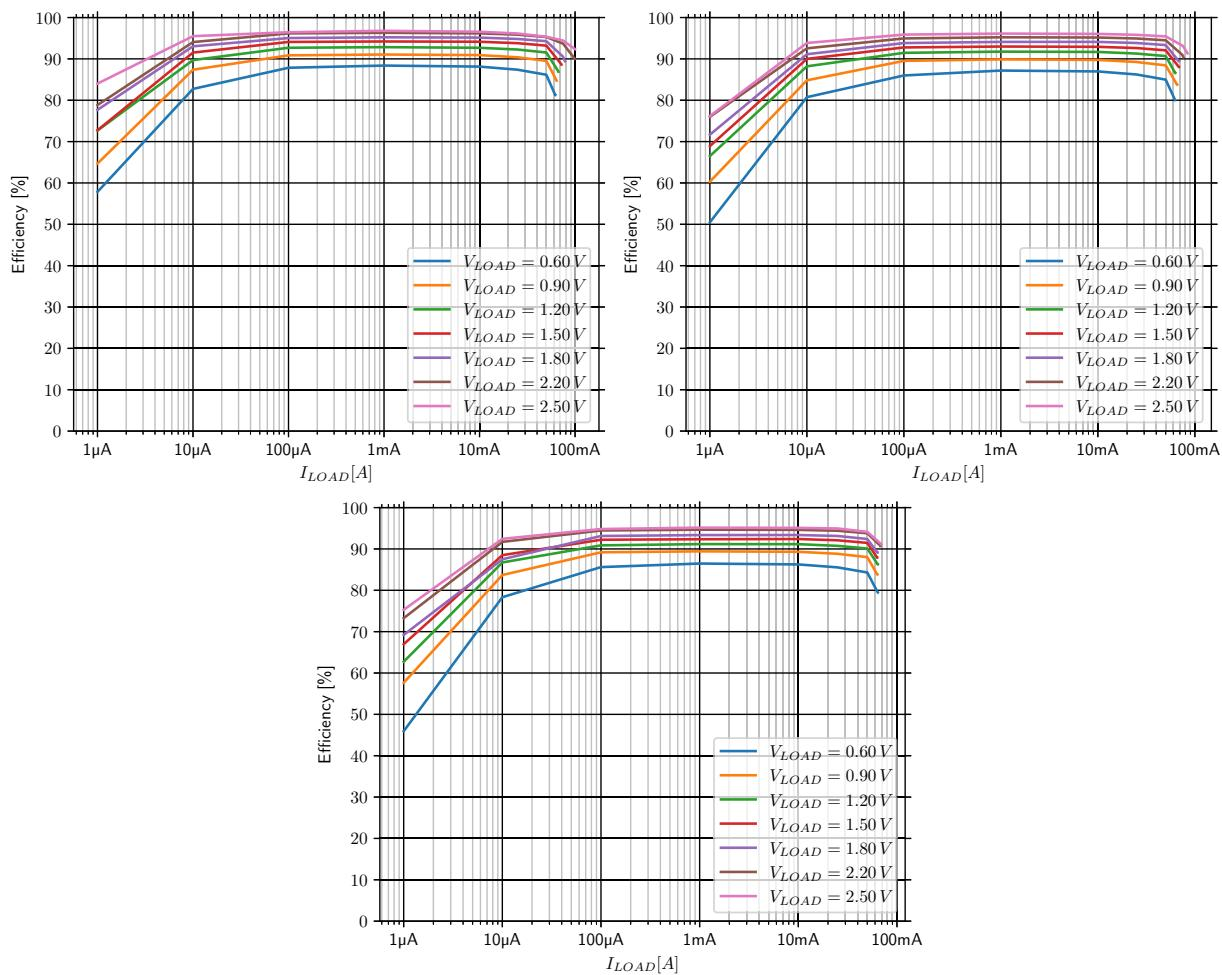

Figure 8: Buck (LOAD) converter efficiency with $L_{BUCK} = 10 \mu$ H (Coilcraft LPS4018-103MRB), $BUCKCFG.TMULT = 0x01$ (x2)
- Optional: a device able to act as an I²C master and send I²C commands to the AEM13920. Only useful when testing settings that are not accessible through the configuration pins, such as buck timings. Please note that the results shown on Figure 8 are with x2 buck timing, which has to be set to this value through I²C communication.